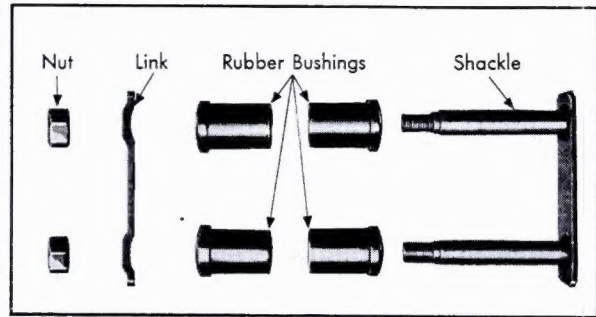

Fig. 4-6 Rear Leaf Spring Shackle
4. Remove rear shackle nuts and link, Fig. 4-6.